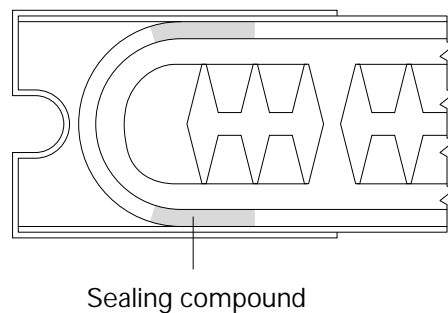

Figure 17
3. Inject sealing compound (e.g. sealing compound for car windscreens) into the groove at the end of the radius over a length of 2 cm (Fig. 17 below).